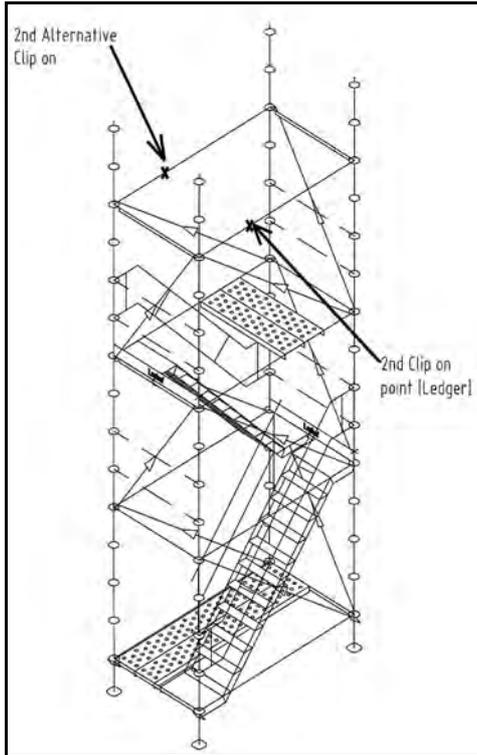

FIGURE 8.
16. Proceed in a similar fashion in 2m lifts, using the appropriate size standards, (usually 2m) until the top section is reached. **NOTE: The tower is to be tied to the permanent structure as erection proceeds on both inside standards at 4.0m height intervals., or as advised by Layher Technical Bureau. (figure 8).**